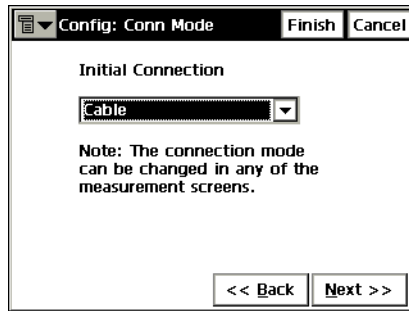

Figure 3-48. Config: Conn Mode
4. Select the connection mode (the Initial Connection parameter) using the **Config: Conn Mode** screen and tap the **Next** button (Figure 3-48). Selections depend on the instrument type.